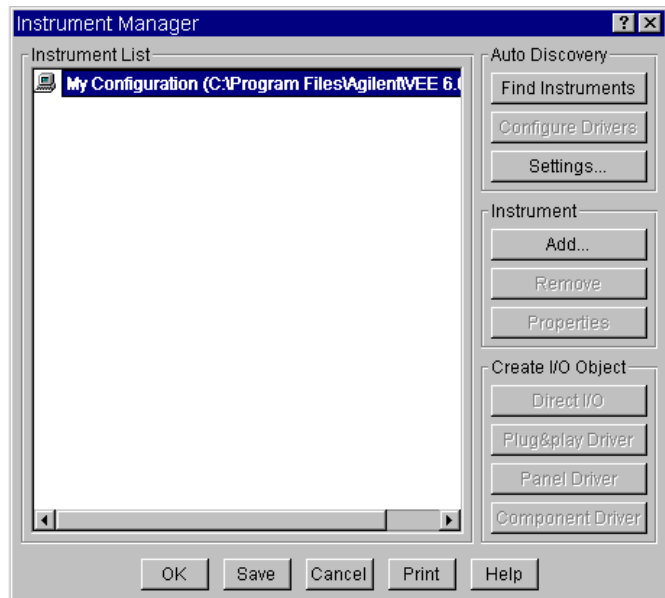

Figure 83 The Instrument Manager Box
- 1 Select I/O ⇒ Instrument Manager... Move the dialog box to the upper-left work area by clicking and dragging its title bar, as shown in Figure 83.